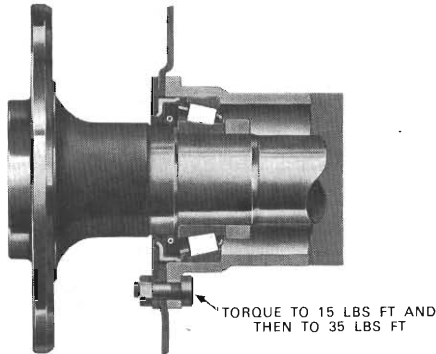

Fig. 8 - Bearing Retainer Bolts.
(5) Correctly install the bearing retainer plate and push the axle, bearing and seal into its seated position to install the retainer nuts.
(6) Install the retainer nuts and tighten evenly to 15 lbs.-ft., then finally tighten evenly to 35 lbs.-ft., (to prevent distortion of the plate and seal), using a torque wrench, *refer Fig. 8*.